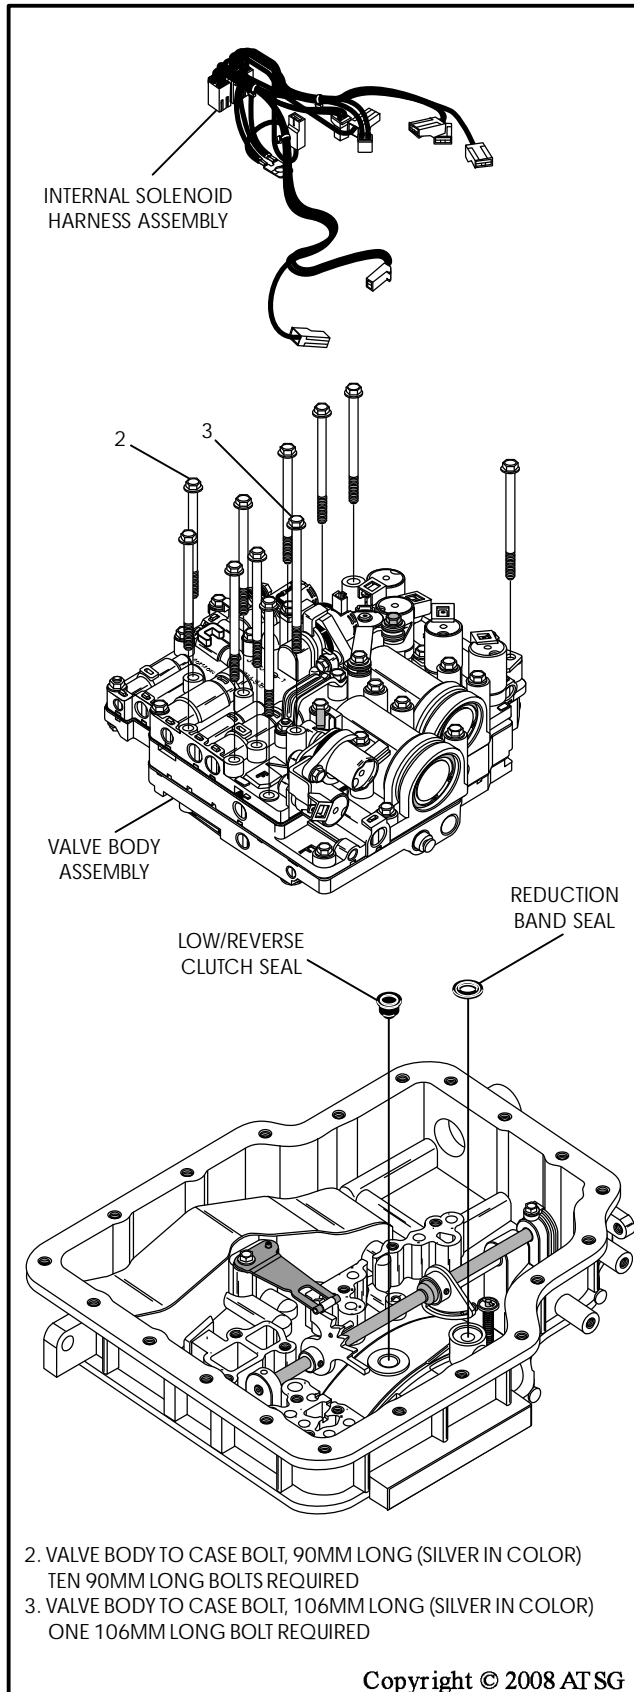

Figure 37
14. Remove the bolt from terminal holding the ground wires, and remove the internal solenoid harness assembly, as shown in Figure 37.
16. Remove the valve body assembly by lifting straight up, as shown in Figure 37.
18. Remove and discard the low/reverse clutch "top-hat" seal and the reduction band seal, as shown in Figure 37.